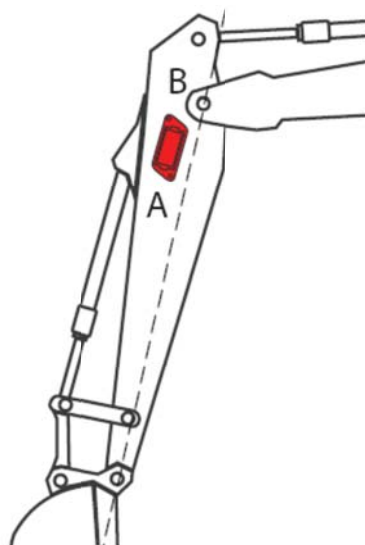

Figure 13. Stick sensor (mounting orientation A1)
- A1: left side, measurement axis A pointing to the bucket (Figure 13)